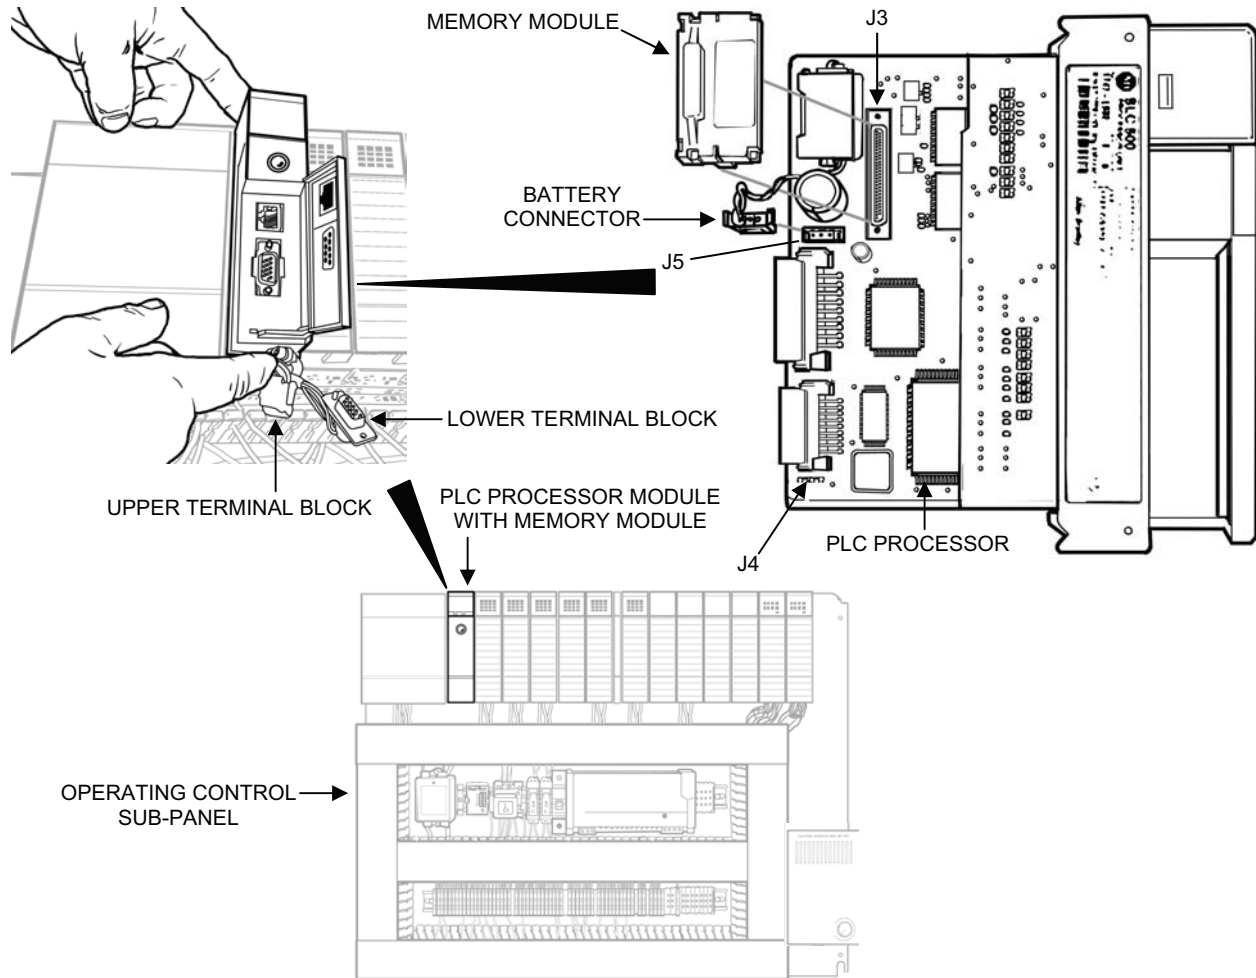

Figure 3. PLC Processor Module and Memory Module Replacement.
4. Remove the processor and memory module as follows (see Figure 3):